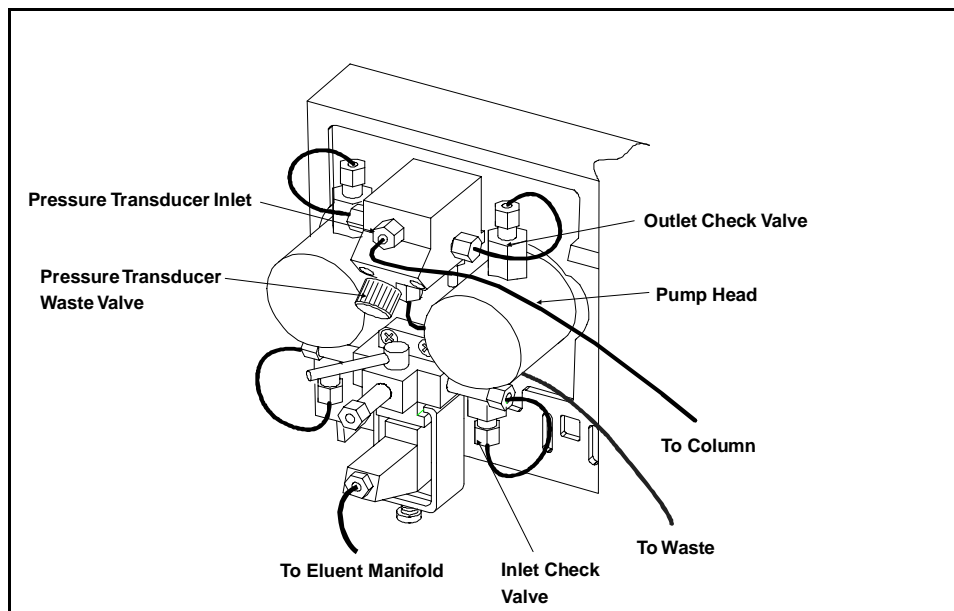

Figure D-1. Pump Heads and Liquid Lines
5. Open the pressure transducer waste valve (see Figure D-1) by turning the knob counterclockwise about two turns. Opening the waste valve directs flow from the priming block through the pump heads and out to waste (bypassing the eluent out line to the column).
2. Disconnect the tube fittings from the pressure transducer inlet and from the pump head inlet check valve (see Figure D-1).